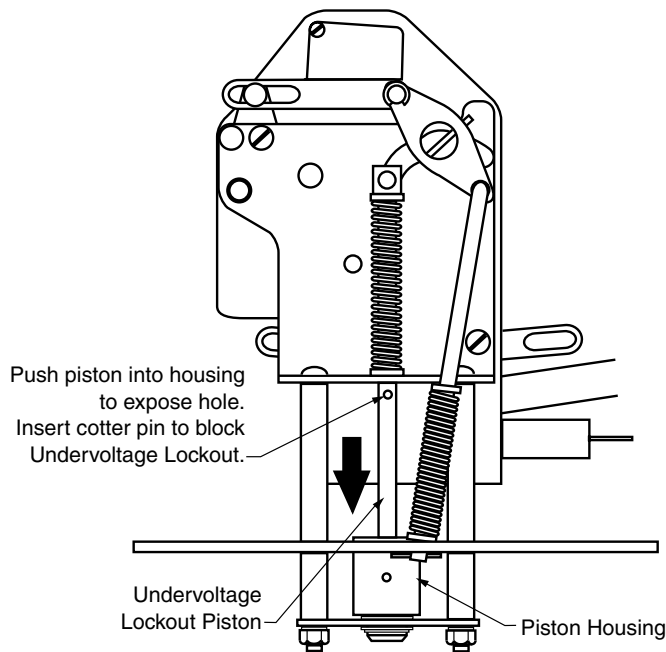

Figure 18.
4. Install a cotter pin through the hole in the piston shaft. See Figure 18.